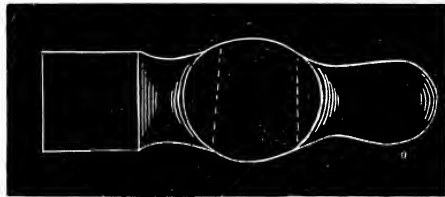

Fig. 1.
To ascertain that point, we will first take one of the front wheels, and find at what point it will strike the body in turning, which we do by measuring the height of the body from the ground on the wheel, as line A, Fig. 1; the top point of the line is the
point where it will strike, and line B is the distance which the wheel will reach under the body in the direction of the perch; line C is the height of the perch from the ground. Now all that remains is to find *where*, and at what *angle*, the wheel will be when turned under, which we will endeavor to do by giving half section of carriage part, Fig. 2. Line A represents the front axle turned until the wheel strikes the body, which is represented by line B. Line C is the distance which the wheel reaches under the body, as we ascertained by Fig. 1, and will compare in length to line B in that figure, which is the important thing to remember. Now by drawing a line for the stay from the given point of attachment on the back axle D, so that it will just touch the wheel, we find that the front end will meet the perch at the king bolt E. This is the correct way of ascertaining where the stay should strike the perch.
Fig. 1 represents the lower part of front platform, with springs attached. The circle measures 24 inches in diameter. Short furchels are framed into the bed to receive the pole. Long furchels on the outside run back, and are clipped to the cross-spring bar.
In Fig. 1 is shown the front carriage, which will give a correct idea of how it is constructed. It is drawn on a scale of one inch to the foot.
a riveting hammer. The hand hammer, Figs. 1 and 2, having a flat circular face and a globular pane, is a tool which a hand commonly owns, and a great deal of its effectiveness depends on the right proportion and size of that tool. The flat face is used
In view of this fact, we would recommend them to be laid with good cast-steel to that of half the thickness. Use cast-steel for the reason that steel of a softer character would be liable to settle around the holes. Some might ask the question, why not harden or temper them? We would answer, for the simple reason that it would be almost impossible to keep the temper in them; yet, with extra care, it could be done. You will observe that it is necessary to use two blocks or heading tools—one cut representing both, as is shown. Fig. 1 represents both first and second of said block or heading tools.
Dimensions of Fig. 1 and 2, $3\frac{1}{4}$ of an inch long, $2\frac{1}{4}$ inches wide, $1\frac{1}{2}$ inches in
First, the iron should be of the first quality of Norway, 1 inch by $\frac{1}{2}$ -inch; place Fig. 1 in the anvil, draw the shank properly to fit hole C; then place, while hot, the full size of the iron 1 inch from the point, working lively with both hammer and sledge. Flatten it only at the place where it rests on the beekhorn, then bend as letter I represents; quickly placing it in the heading tool, keeping up the same lively strokes until it reaches the point J represents; having the dividers set $4\frac{1}{2}$ inches, placing one point on the outside of shank J, and at the other point mark with a center punch, cutting off $\frac{1}{4}$ of an inch longer to draw out the small end K represents. After this done, turn the other end and go through the same process as represented in I and J, then both ends will be formed.
Fig. 1 represents a die plate for cutting the thread of clips, where a common or straight die plate would interfere with the opposite shank of the clip, to that intended to cut; bend both shanks of the clip sidewise, so as to bring your die plate in a diagonal position, and you can operate it at pleasure.
Fig. 2. Top view to Fig. 1. The dies are mitred, and held firm in their corresponding cavity, by plate A, Fig. 1, screwed to the bottom of the frame. Carriage bolts are got up cheaper, more uniform and superior to those made by hand in manufactories for that purpose; all that remains to be done in the smith shop is to replace the nuts, which always seem to be, more or less, wasted or lost.
4. *Parallel forces.*—We apply the term parallel to such forces as move alongside of one another on the same body. For instance, if we take the case of the hook, which seems to suspend the seven weights, according to square B, Fig. 1, were missing (to give way), the weights would all fall to the ground at the same time, and would describe respectively the vertical lines 1, 2, 3, 4, 5, 6, 7. These lines are all parallel, and we conclude that weights or forces move in parallel directions.
Again, let us take the beam (Fig. 1) and divide the weights which it carries into two groups by means of the lines *c* and *d*. Now we can proceed as before, and take the weights off each group, and concentrate their force on the points *e* and *f*, which are themselves at equal distances from the middle. We have here the result as shown in